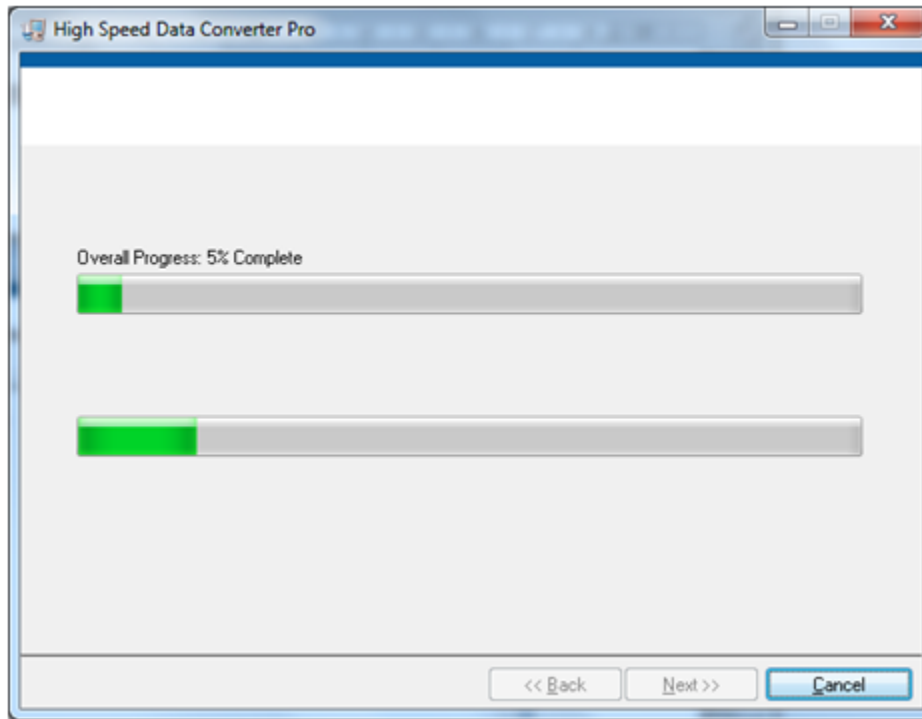

Figure 7. HSDCpro Install (f)
- The window shown in Figure 7 should appear, indicating that installation is in progress.